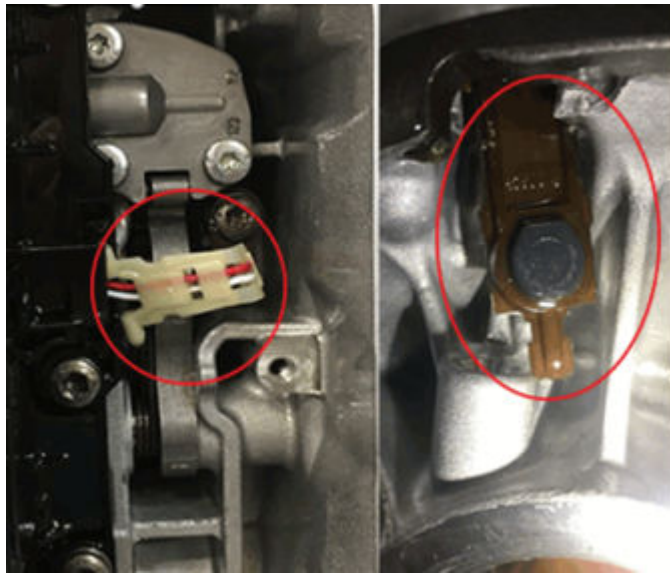

Fig. 45
69. When installing the Output Speed Sensor (OSS) into the case, take care to position the OSS guide pin as shown below or damage to the sensor may result. This is the incorrect alignment of the pin Fig. 45.